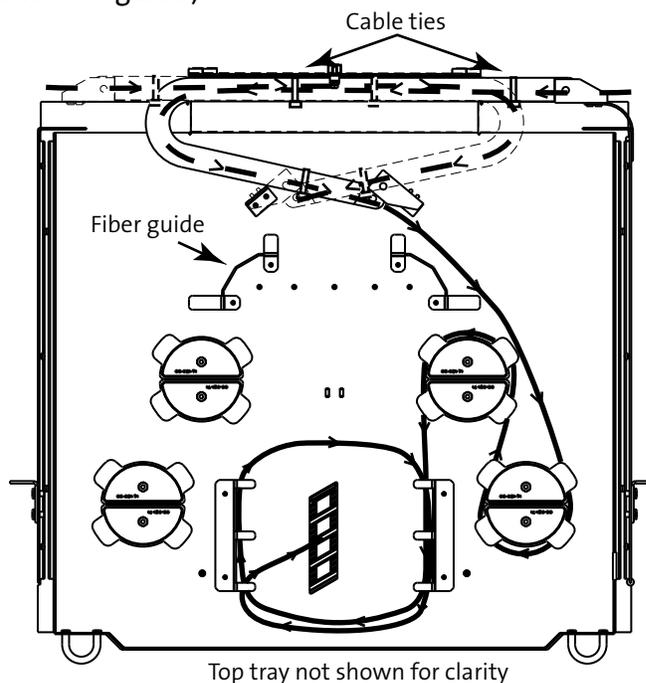

Figure 7
The unit is shipped with the cable carrier and control guide (Figure 7) installed for cable entry from the right. If bringing cable into the housing from the left, detach the cable carrier and its brackets and attach them on the left side of the housing (shown by the dashed line illustration in Figure 7).
Step 1: Feed incoming cable into the cable carrier from the rear of the OMS and use cable ties at approximately the positions shown in Figure 7 to hold the cable inside the carrier.
Step 2: Open shelf drawer and pull cable into the unit from the front and feed it around the fiber guide next to the cable carrier as shown in Figure 7.
Step 3: With the top tray (not shown) rotated to the “up” position, route fibers in the lower level as shown in Figure 7.